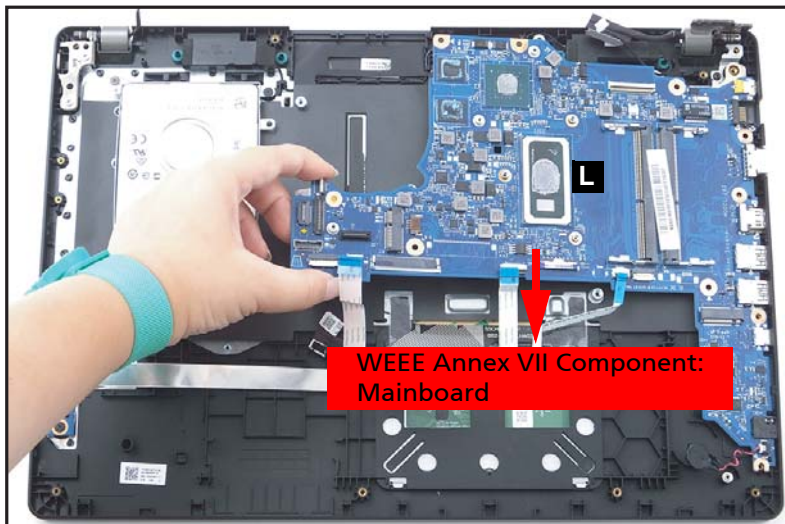

Figure 1-40. Mainboard Removal
14. Remove the mainboard (L) from the top assembly (Figure 1-40).